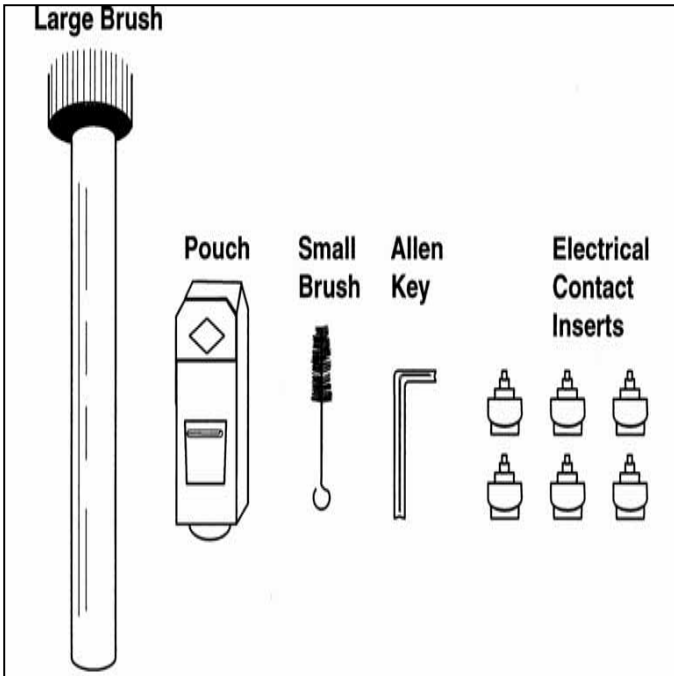

Figure 4-13-2: Smoke Grenade Launcher Accessories and Spare Parts
21. The accessories and spare parts for the smoke grenade launcher are detailed in (see Figure 4-13-2).